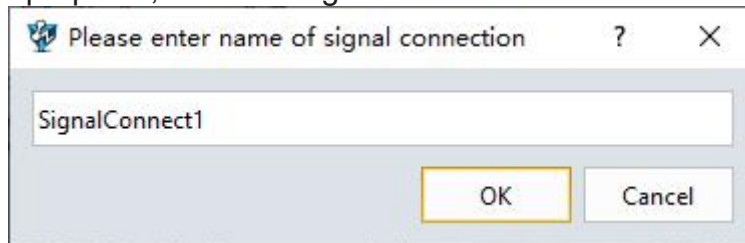

Figure 12-19: Signal connect name
- In the pop-up box, name it "SignalConnect1" and click "OK". (Figure 12-19)